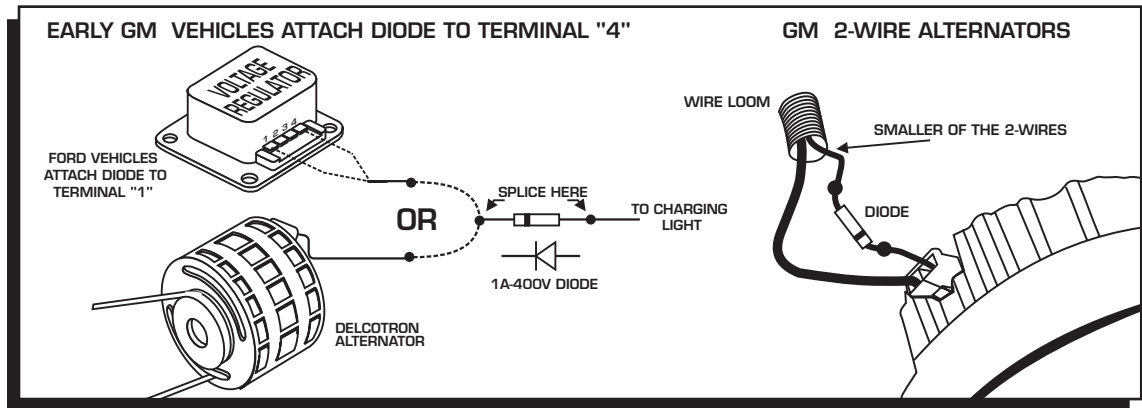

Figure 5 Installing the Diode to fix Run-On.
**Early Ford and GM:** To solve the Run-On problem, a Diode is supplied in the parts bag. By installing this Diode in-line of the wire that goes to the Charging indicator, the voltage is kept from entering the CDI. Figure 5 shows the proper installation for early Ford and GM vehicles.
**Note:** Diodes are used to allow voltage to flow only one way. Make sure the Diode is installed facing the proper direction (as shown in Figure 5).
GM Delcotron Alternators use an internal voltage regulator. Install the Diode in-line on the smallest wire exiting the alternator (Figure 5). It is usually a Brown wire.